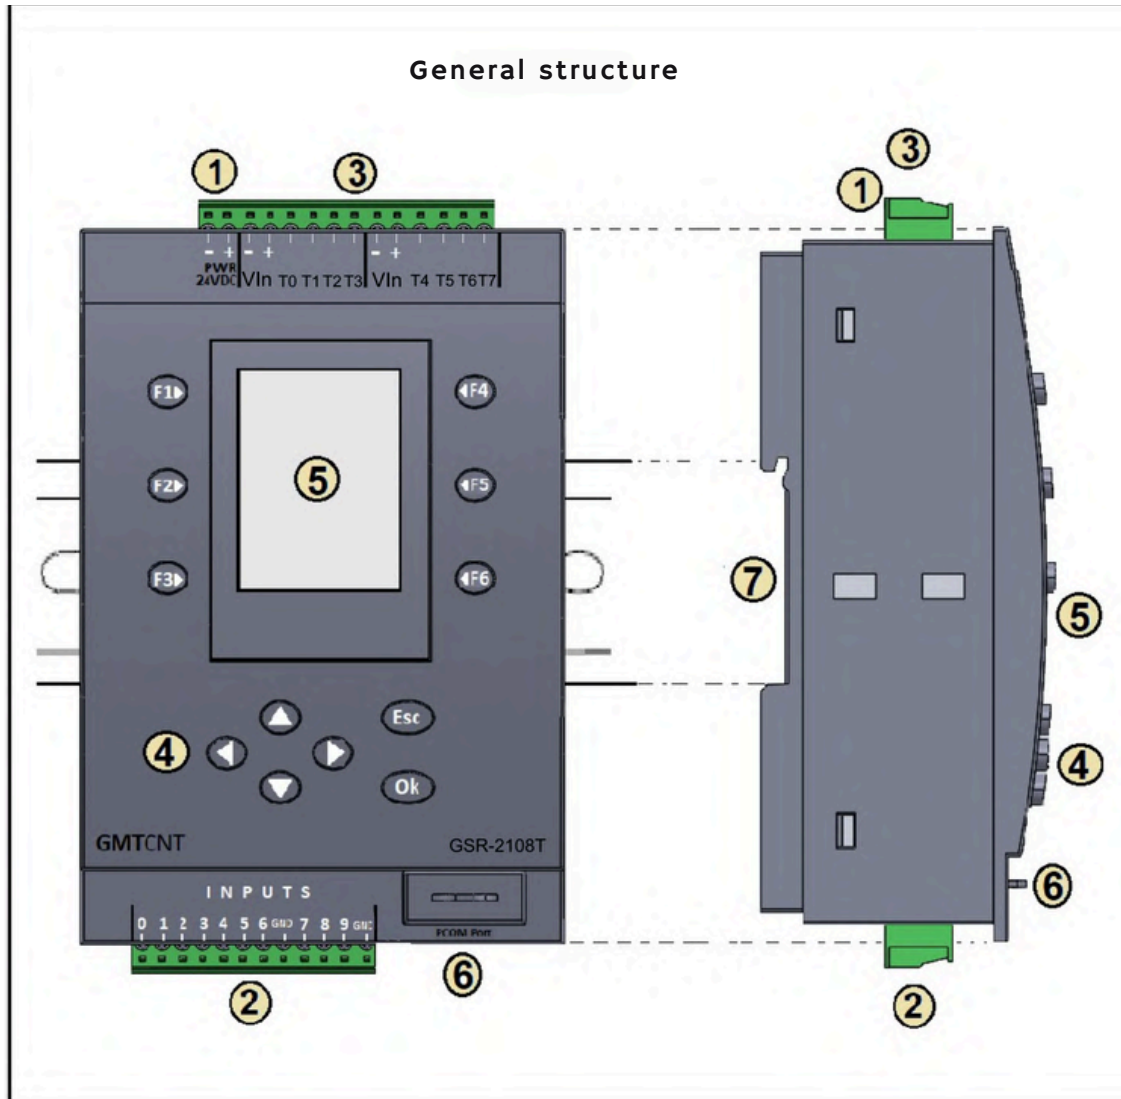

Figure 1: Structure of the Device
- In Figure 1 below, the overall structure of the GSR-2108T Mini PLC with Display is illustrated in seven primary sections, numbered accordingly.